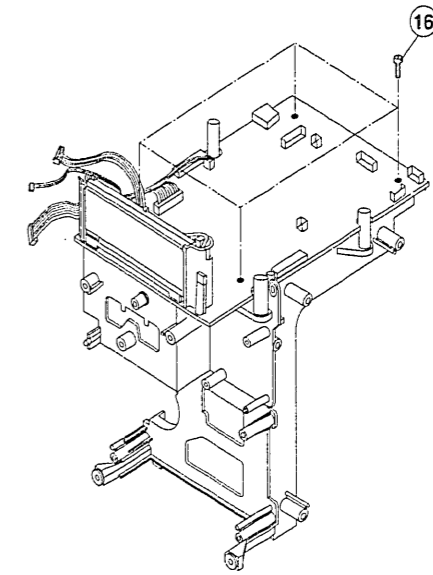

Fig. 13
- (1) Remove 4 screws ⑰, and remove the cassette mechanism from the Main Chassis, and then disconnect 1 connector ⑰.
12. **Removal of CD P.W.B (Fig. 13)**